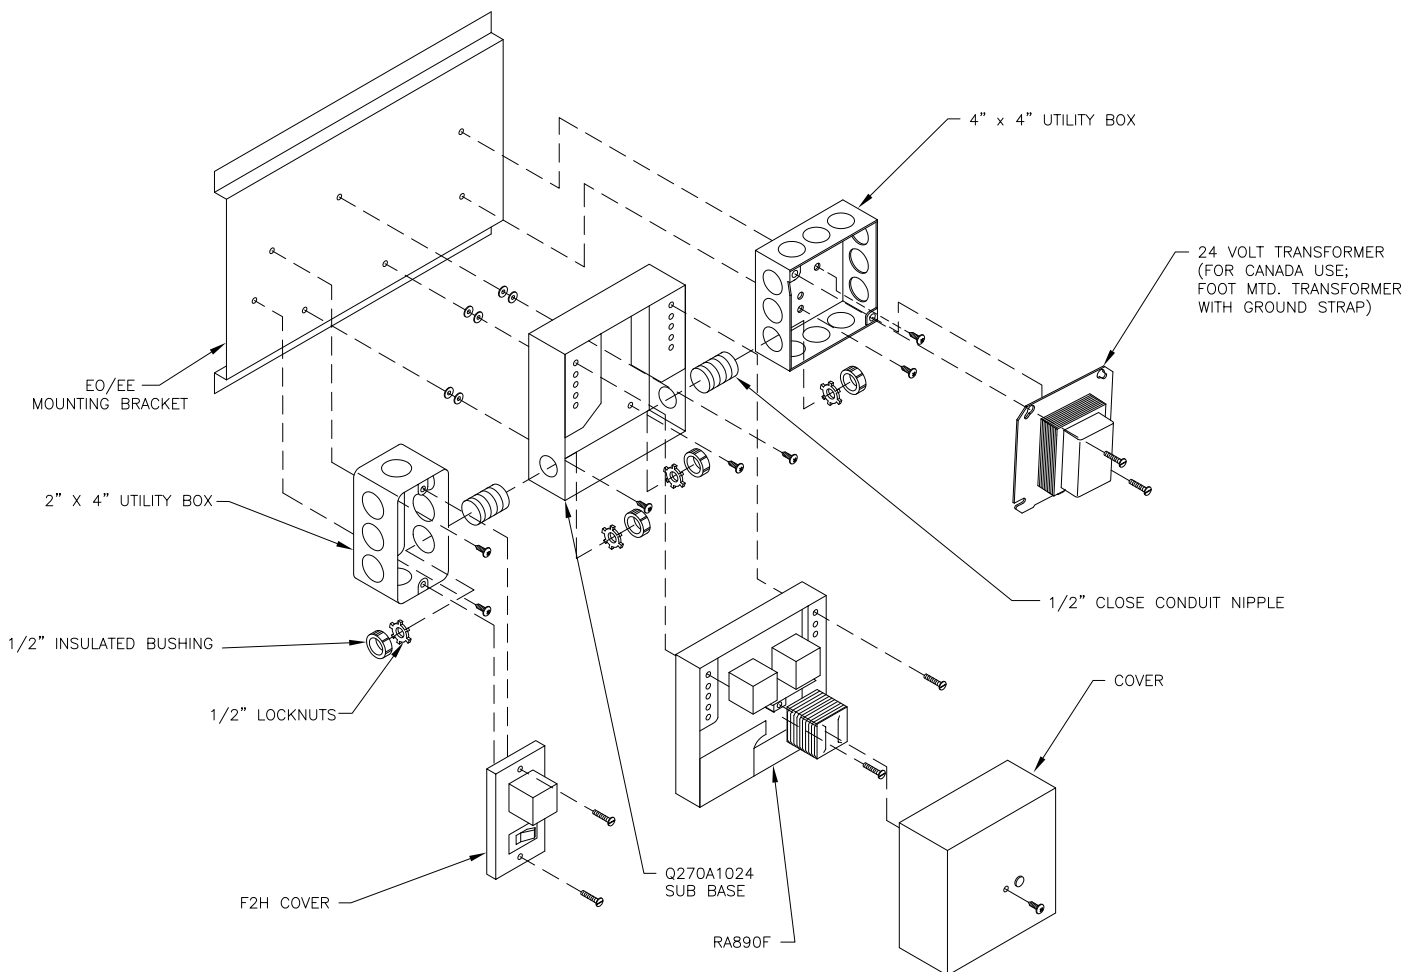

FIG. 33
3. INSTALLATION OF "EO" PANEL AND WIRING OF PILOT AND PILOTSTAT – Attach the EO mounting bracket with Controls, see Fig. 33, to both Upper and Lower Jacket End Panels, preferably on the same end as the Gas Train. Two holes in each Jacket Panel have been provided for this purpose. Use two #10-32 x 1/2"
1. INSTALLATION OF “EE PANEL”, - Attach the EE mounting bracket with Controls, see Fig. 33, to both Upper and Lower Jacket End Panels. Two holes in each Jacket Panel have been provided for this purpose. Use two #10-32 x ½” MS and nuts in the front holes and two #8 SMS in the rear holes. If Foot Mounted Transformer, connect to J-box using straight connector, BX, straight connector and ½” pipe nipple. Drill holes in Jacket and fasten Transformer using SMS.